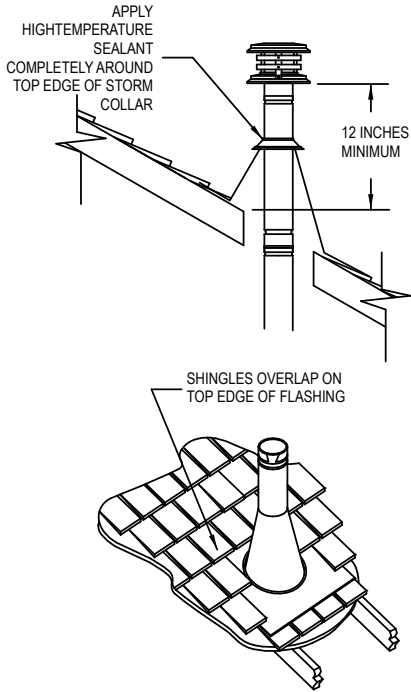

Figure 2
H. To finish, apply high-temperature waterproof sealant where the Storm Collar will meet the vent and Flashing; slide Storm Collar down until it sets on the Flashing, put the Cap on and twist to lock (**Figure 2**).